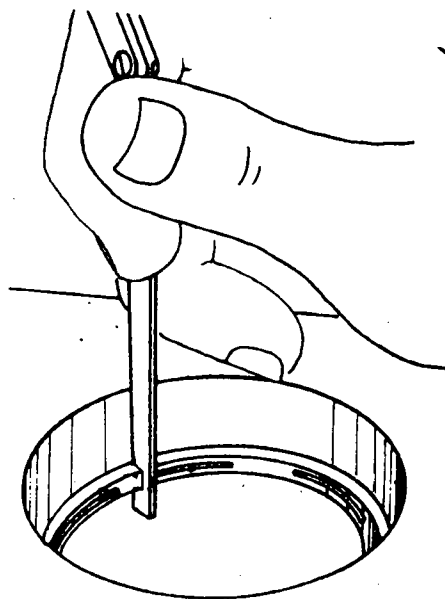

Fig. 7
- b) Check the gap of the rings in the cylinder (fig. 7).